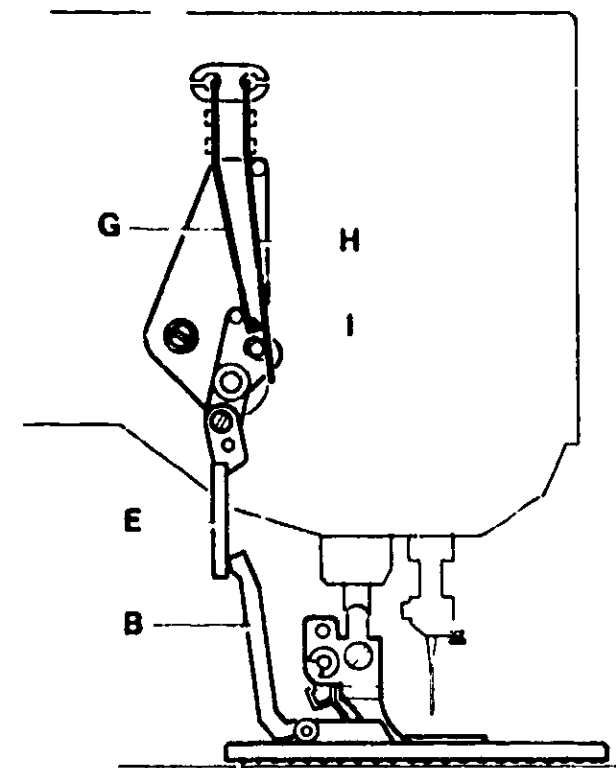

FIGURE 60
- Install buttonhole foot and make sure that sole slant allows lever (B) to be properly positioned in front of lever (E) (Figure 60).